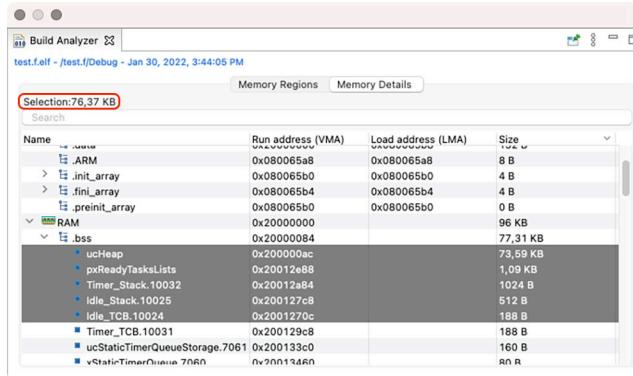

Figure 24.16: The Memory Details tab in the Build Analyzer view
- The Memory Details tab (see Figure 24.16) contains detailed program information based on the ELF file. The different linker section names are presented with address and size information. Each section can be expanded and collapsed. When a section is expanded, functions/data in this section is listed. Each presented function/data contains address and size information.
The sort order of a **Memory Details** tab column can be changed by clicking on the column name. The information in the **Memory Details** tab can be filtered by entering a string in the search field. The view provides a convenient feature. The sum of the sizes of several lines in the **Memory Details** tab can be calculated by selecting these lines in the view. The sum of the selection is presented above the Name column in the view, as shown in Figure 24.16. The data in the **Memory Details** tab can be copied to other applications in CSV format by selecting the rows to copy and typing Ctrl+C (or CMD+C in Mac).